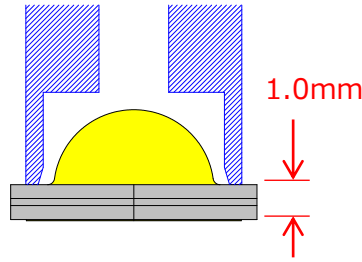

Figure 4. part Height
- The nozzle touches on the top of LED substrate. (see Fig. 4)